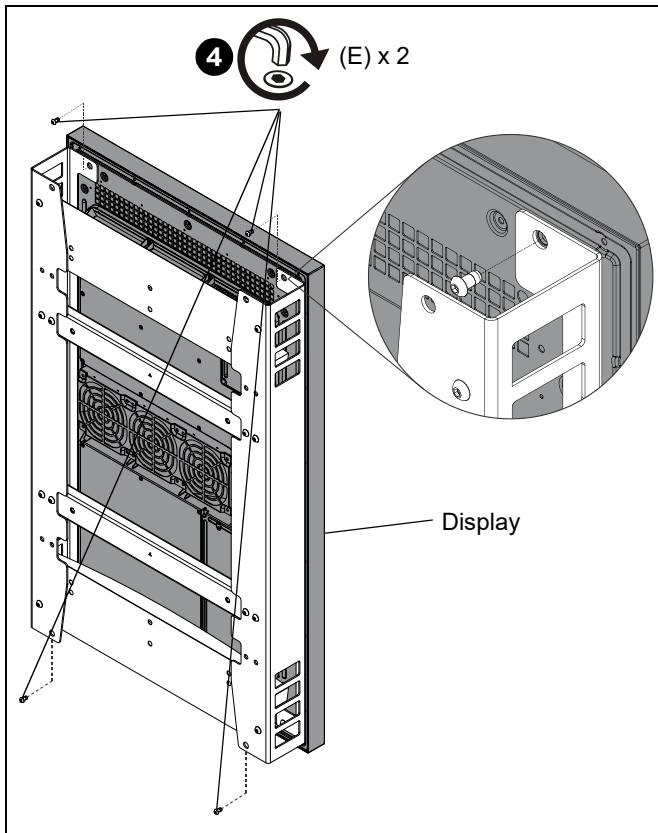

Figure 4
4. Attach side plates (A) to back of display using four M8 x 16mm hex head cap screws (G). (See Figure 4)